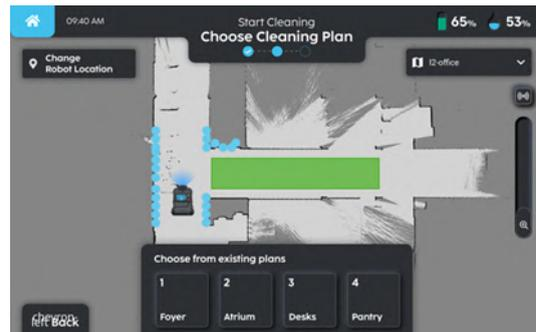

FIGURE 8-9
6. When the machine has been localised, the machine is ready to be used (**Fig. 8-9**).